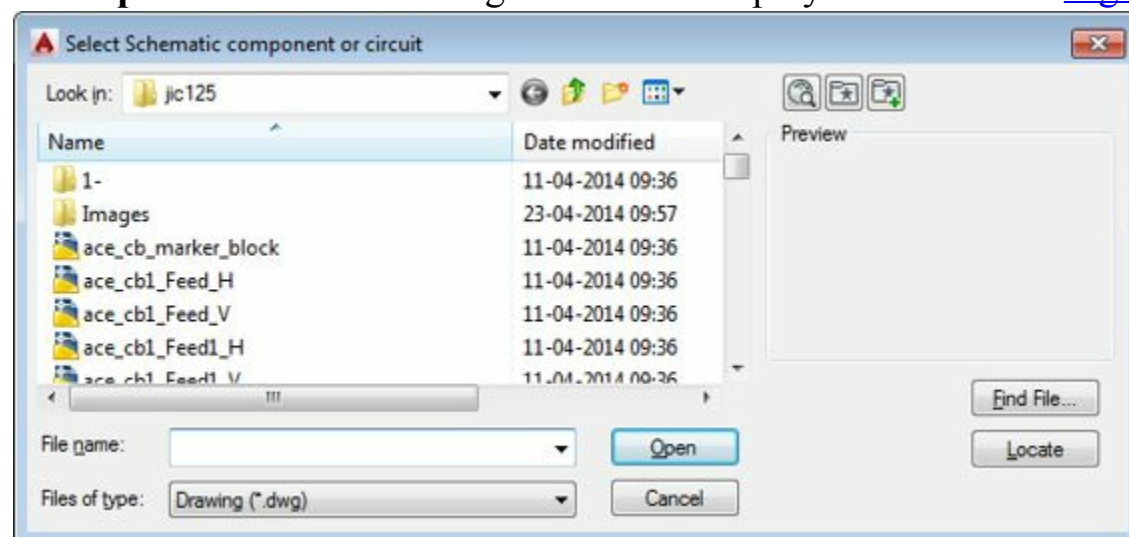

Figure-26. Select Schematic component or circuit dialog box
- Click on the **Browse** button to specify the location of block for component. The **Select Schematic component or circuit** dialog box will be displayed as shown in Figure-26.